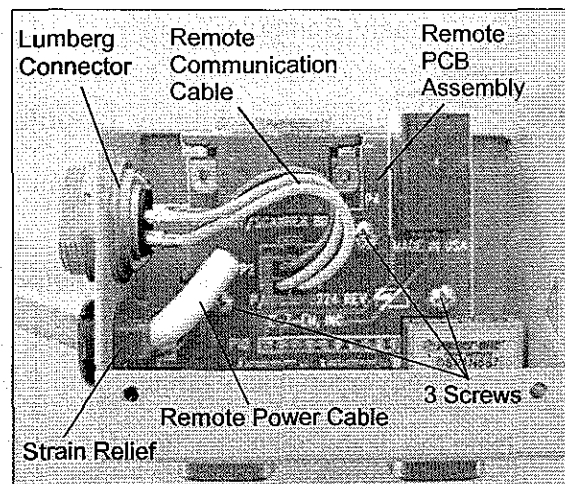

Figure 4-11b: Remote Cables
- c. Remove the Remote Interface Cover (see Section 5.7.1 – Replacing the Remote Interface Cover) and disconnect the Remote Power Cable Assembly from P1 on the Remote PCB Assembly (see Figure 4-11b).
- e. Disconnect the Remote Communications Cable (inside the Remote Communication Box) from P2 (see Figure 4-11b).